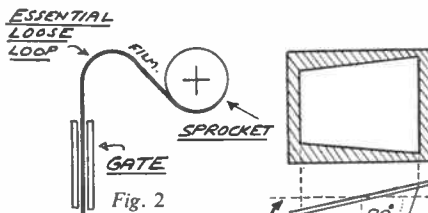

Fig. 2
(3) **Continuous jumping**, and a sense of heavy going. This is caused by the loss of the 'top loop', or by having threaded-up with a much too small top loop. In threading, the film comes from the top sprocket roller and then arches loosely before entering the gate (Fig. 2), which ensures that there is always enough film to allow for the next downward drag of the claw. If this top loop is too small, if only slightly, the downward drag just tightens the film up and causes the jerking. This trouble can damage a film badly, for it imposes a too great strain on the sprocket holes, the claw tearing at them instead of merely pulling the film down. The loss of the top loop can be through too tight threading to start with, or it can be gradually lost through occasional slipping. If in any doubt, always stop and check for a good top loop.